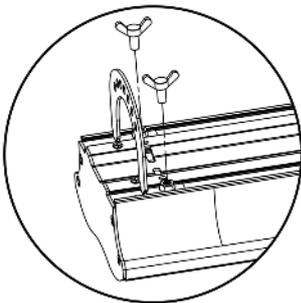

Fig. 1
1. Slide the heater mounting brackets (A) into the groove on the back of the heater and secure tightly with the wing bolts (B). Figure 1.